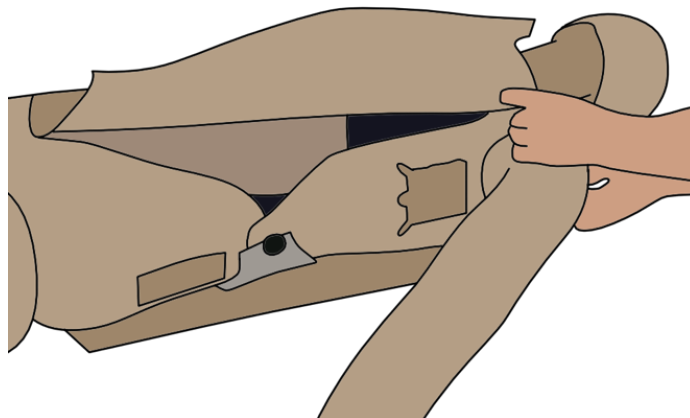

Figure 3. Unzip Chest Skin
In order to install the Amputations with Cores, remove the existing limb from the manikin, following the removal instructions for the existing limb. If replacing a leg, first unzip the chest skin and lay the skin open to one side so the ribs are exposed (**Figure 3**).
1. Unzip the chest skin (**Figure 3**) and lift up the chest plate. Disconnect the red line from the manikin and the Arm Amputation by twisting the white connector.